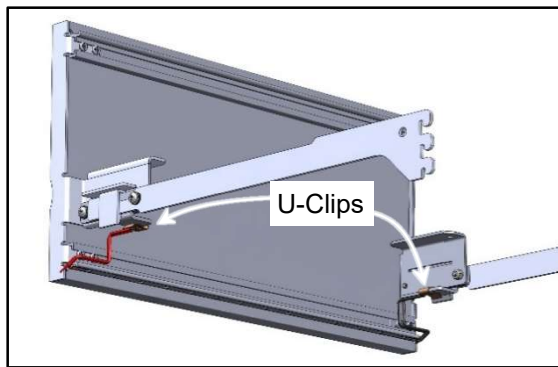

Figure 24
- c. Confirm the U-Clips are attached to steel tabs on the back of the Sign. Inspect for broken wires (see Figure 24).